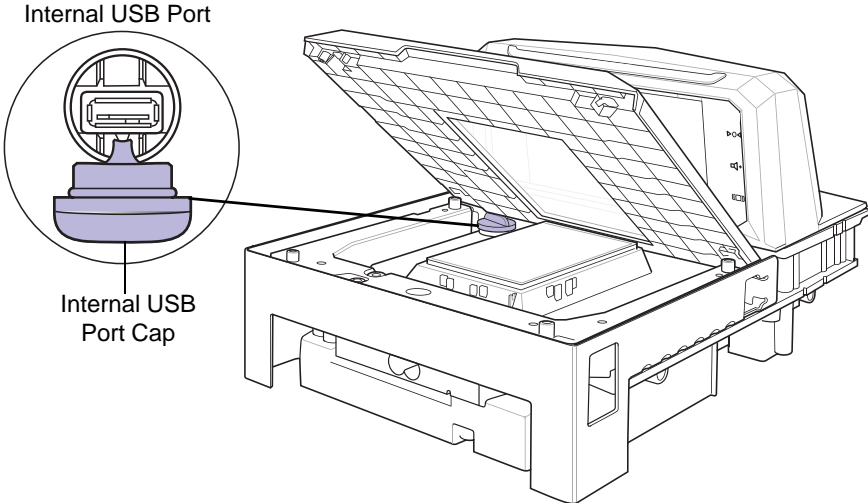

Figure 5-10 USB Port Under the MP6000 Platter
The MP6000 has three USB ports which can be used to load files (see *Figure 5-10*):
- Insert the staging flash drive into one of the MP6000 USB ports (Figure 5-10), and select *Option 1 - Load Files* (see Step 3).